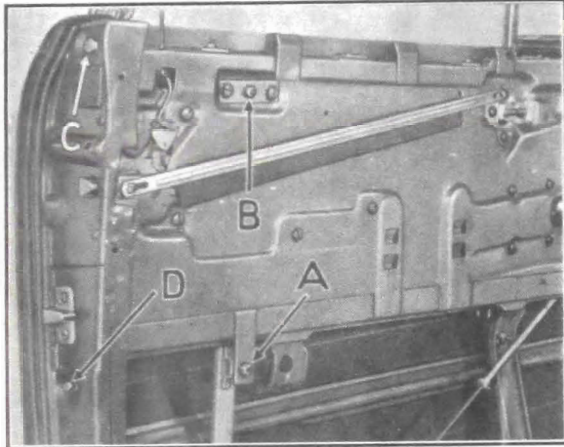

Fig. 1-107. Showing where to adjust the lock pillar glass run channel and door window guide.
Fig. 1-107 shows the door window guide and how it may be adjusted. The lower slotted adjustment "A" may be moved forward, back, in or out, while the upper adjustment "B" may
- Fig. 1-107 shows how the glass run channel on the inside of the door lock pillar may be adjusted, in order to tilt the glass inward or outward from a vertical line of travel. After releasing the tension of the upper holding stud at "C," next loosen the lower slotted adjustment at "D" and swing or pivot the channel in the direction the glass is desired to travel and then tighten screws again. This adjustment is usually made in conjunction with door window guide adjustment.